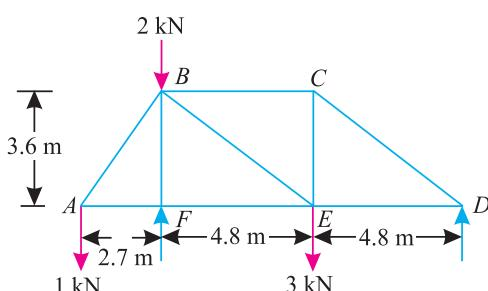

Fig. 14.22.
4. A pin-jointed truss is subjected to three point loads at  $A$ ,  $B$  and  $C$  as shown in Fig. 14.22. Find by any method, the forces in all the members of the truss.